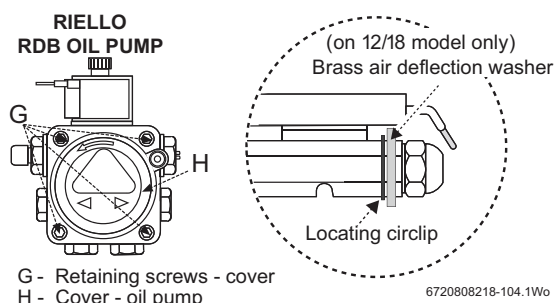

Fig. 78 Pump detail
- ▶ The internal filter is accessed by removing screws (G) and the oil pump cover (H), refer to figure 78.